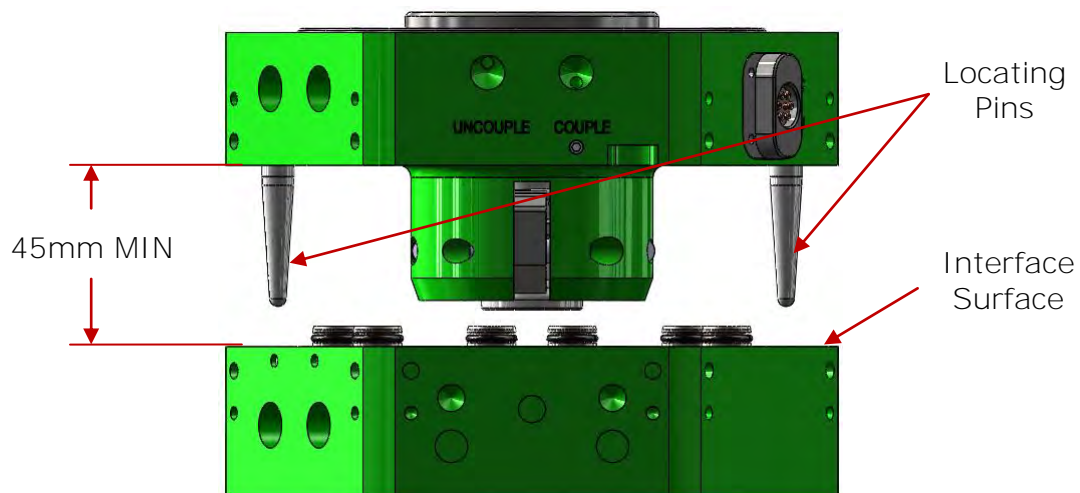

Figure 6.2-1. E100 Tool Changer – Docking Orientation
1. Orient the Robot Adaptor and Tool Adaptor so that the centerline axes are aligned and the interface surfaces are parallel. Maintain approximately 45mm minimum separation between the Robot Adaptor and Tool Adaptor interface surfaces (Figure 6.2-1).